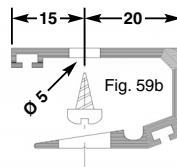

Fig. 59b
- Drill the sealing sections in the fastening zones according to the scheme in Fig. 59b. The position and the interaxis of the holes must correspond with those performed on the sealing sections.